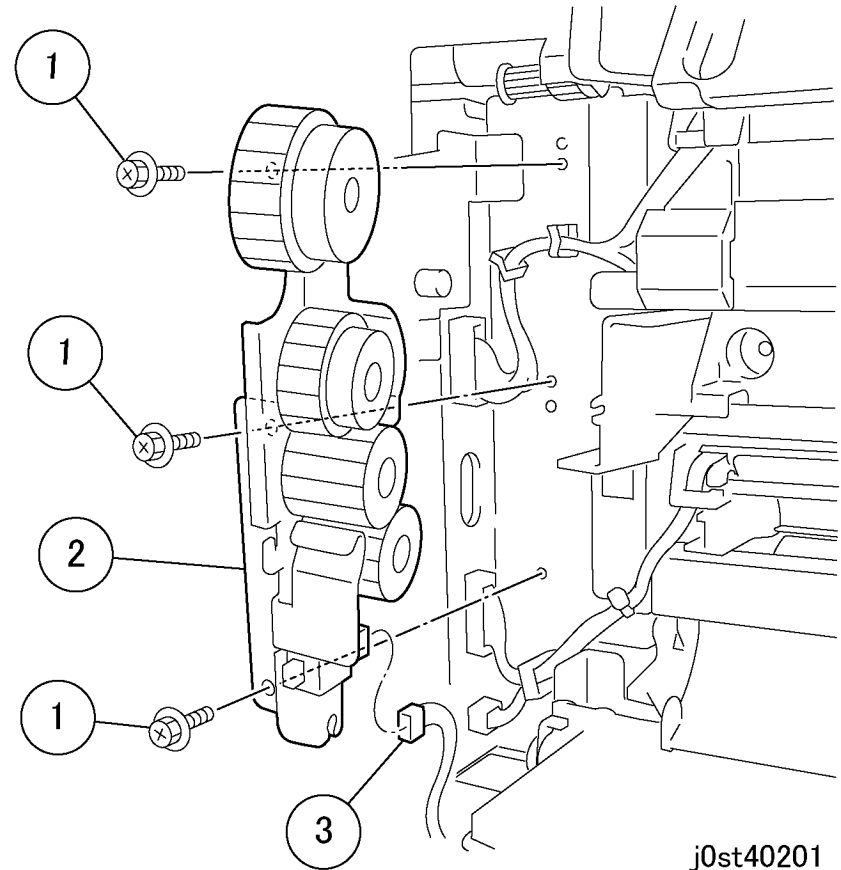

Figure 1 Removing the Gear Assembly (j0st40201)
5. Remove the Gear Assembly. (Figure 1)